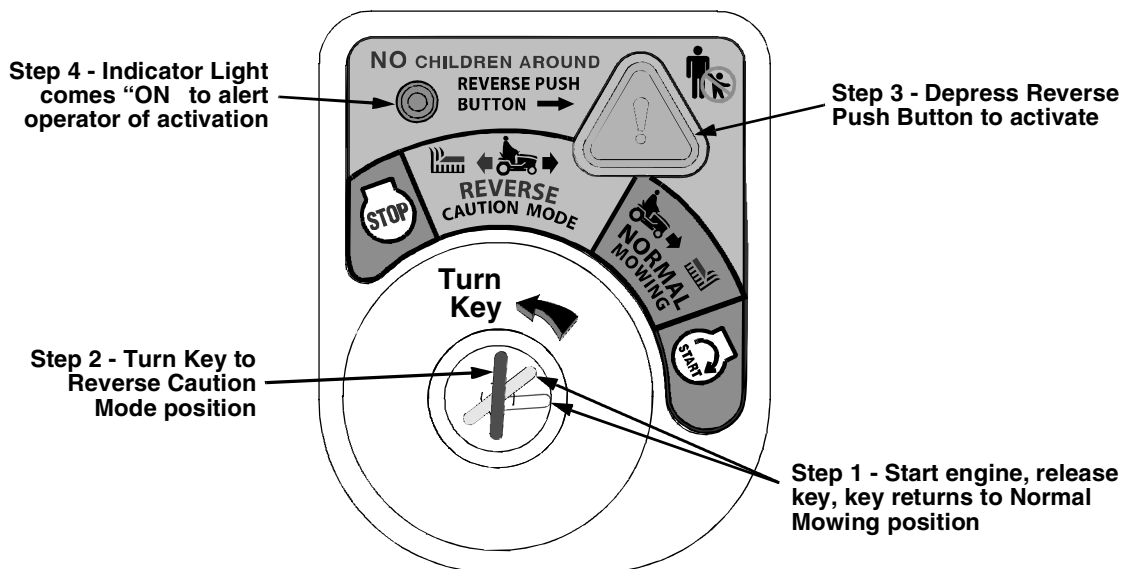

Figure 4-2
MODE (Yellow) position of the key switch module. Refer to Figure 4-2.
3. Depress the "REVERSE PUSH BUTTON (Orange/Triangular Button)" at the top/right corner of the key switch module. The red indicator light at the top/left corner of the key switch module will be "ON" while activated. Refer to Figure 4-2.